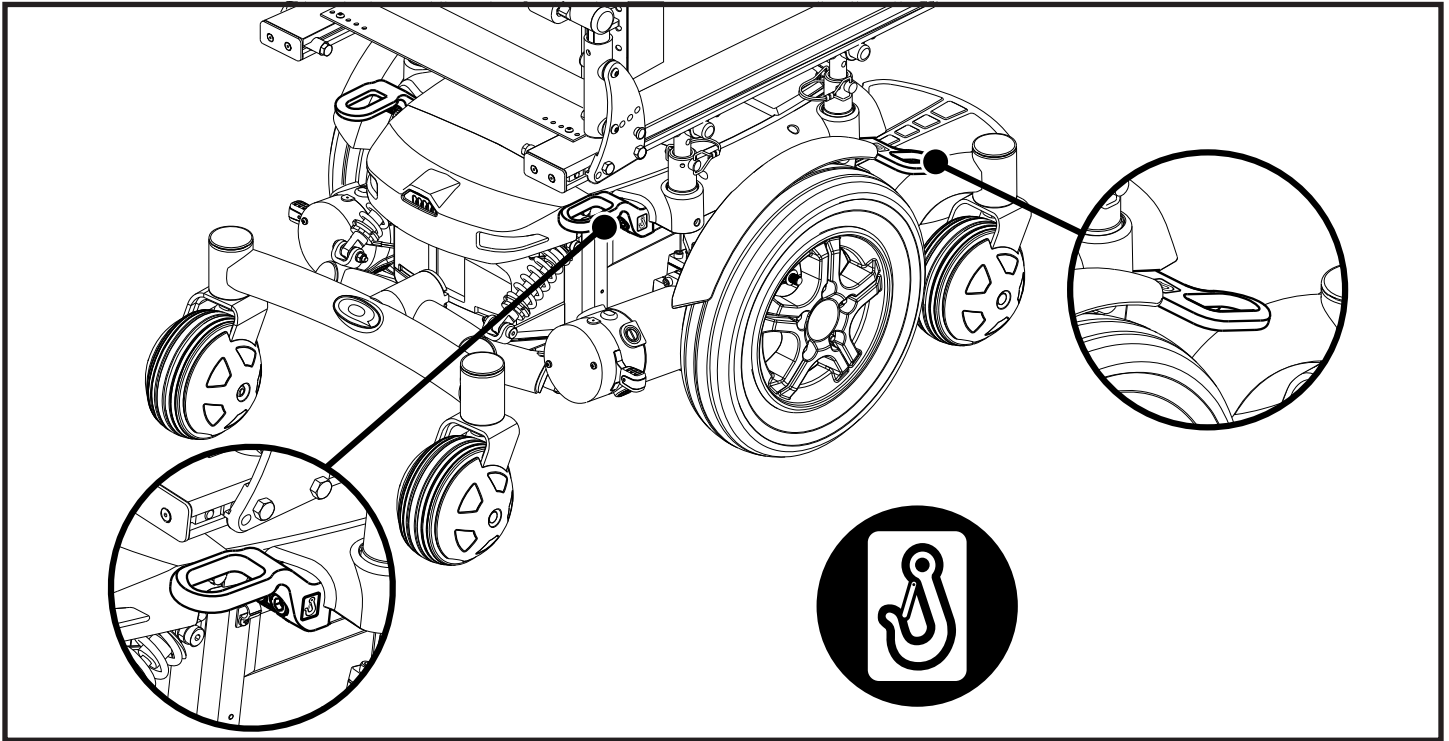

Figure 5. Securement Points for Occupied Transit on a Quantum 6000Z and Q6 Edge Z equipped with a Synergy Seat
- The Pride Transit Securement System includes WTORS belt restraint anchor points in conformance with ANSI/RESNA WC/Vol. 4, Section 19/ISO 7176-19. See figures 5 through 12.